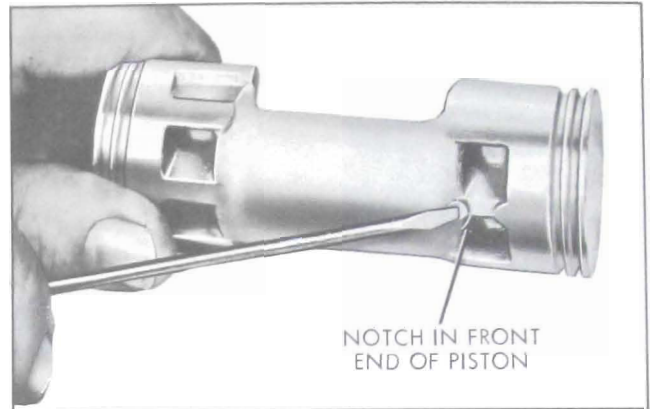

Figure 11-104—Piston Assembly
8. Remove piston rings, balls and shoe discs. Discard the shoe discs. Examine piston balls, if satisfactory for reuse, place in parts tray with proper end of piston. The front end of piston has identifying notch in casting web. See Figure 11-104.